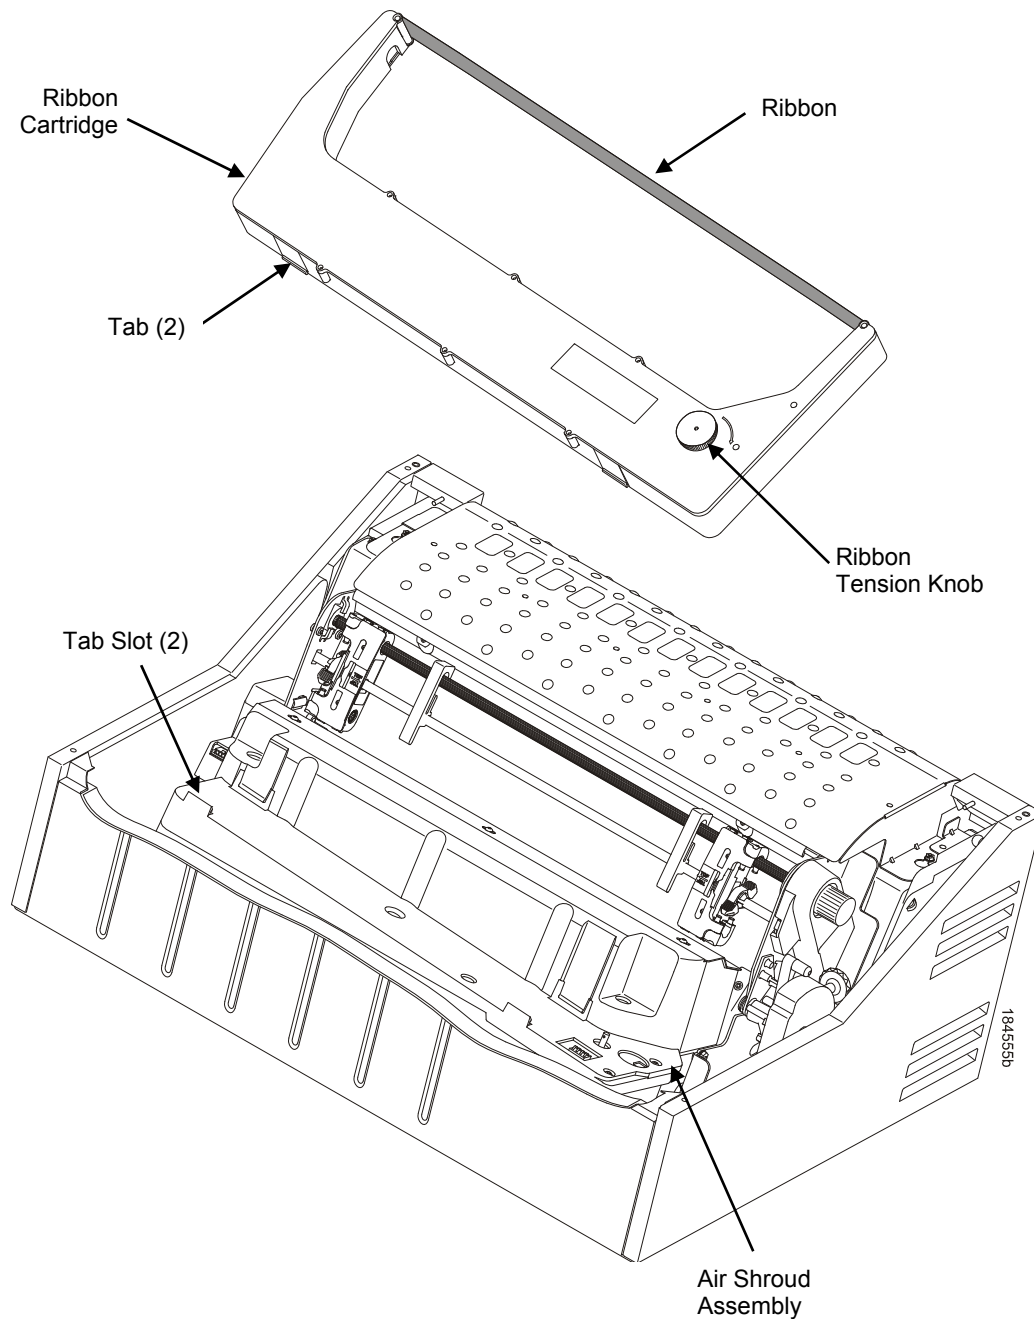

Figure 18 Installing the Ribbon Cartridge
6. Hold the cartridge at an angle, so that the rear side nearest you is lower than the side with the ribbon. Find the two tabs on the outside of the cartridge and place them into the corresponding slots on the air shroud assembly (see Figure 18).